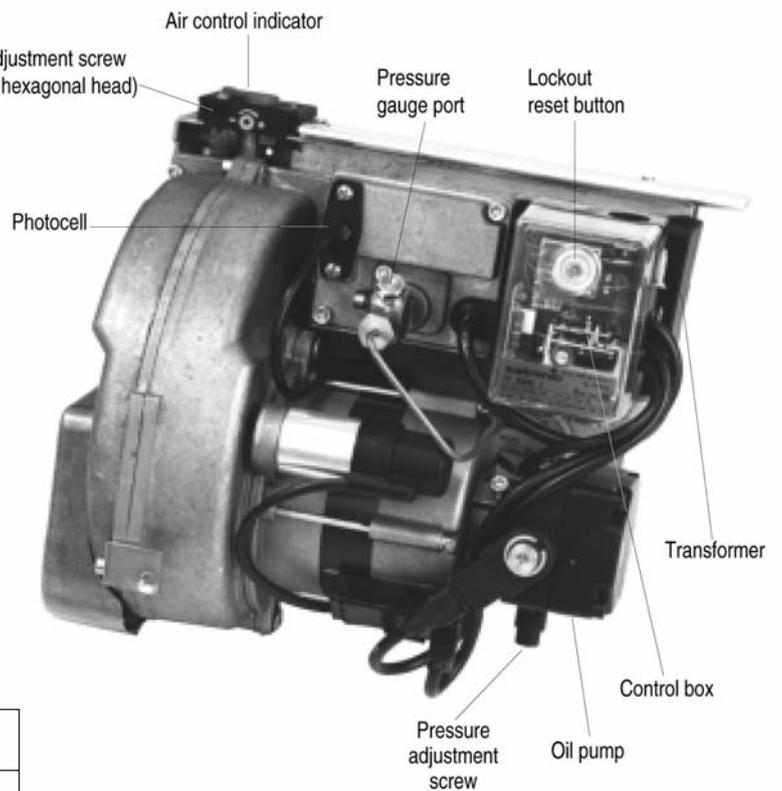

**Fig. 20. Electro Oil Inter B11 Burner.
12.7 Fit a pressure gauge and manifold to the burner pump at the point indicated in Fig. 9 or the pressure gauge port shown in Fig. 20 on the 20/25.
Note: In order that after-spurting is reduced to a minimum during the commissioning period it is recommended that a pressure gauge only is fitted on the external pressure gauge port on the Electro Oil B11 (See Fig. 20). Use of a "T" piece pressure gauge manifold will increase the oil line volume and hence increase the degree of after-spurting.